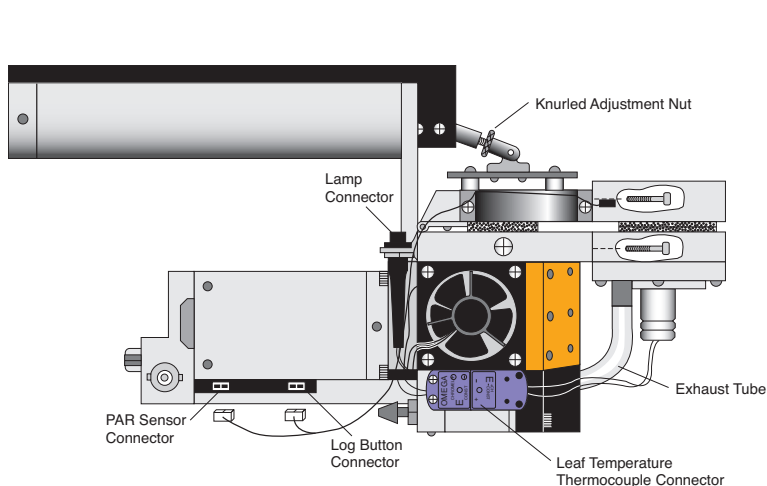

Figure 1. Disconnect the PAR sensor and log button on the side of the sensor head.
1. Remove the male end of the leaf temperature thermocouple connector by pulling straight out (Figure 1). Remove the exhaust tube.
4. With the handle open, unscrew the knurled leaf chamber adjustment nut until it is free of the handle (Figure 1). Close and latch the handle. Wrap tape or a wire-tie around the handle so that it will not open. Failure to do so may result in the spring coming out.
- Attach the lamp connector (Figure 1) to the 6400-22 mounting plate using one of the screws removed in Step 6.